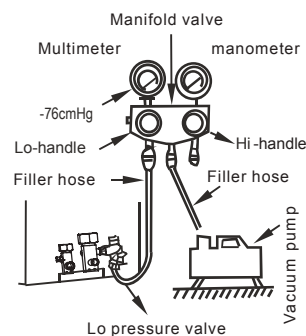

Fig.6-4
- Use a vacuum pump to expel the air (Fig.6-4 ): (For method of using the manifold valve, see the operation manual of manifold valve)